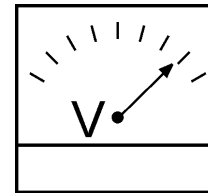
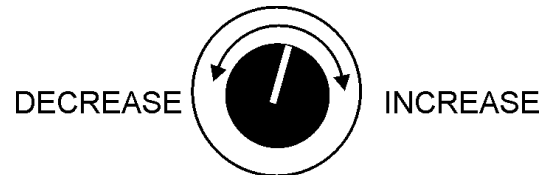

Figure 46. Voltmeter
Figure 47. Voltage Adjust Control Knob
- The generator's AC-voltmeter (Figure 46) will display the generator's output in **VOLTS**. If the voltage is not within the specified tolerance, use the voltage adjustment control knob (Figure 47) to increase or decrease the desired voltage.